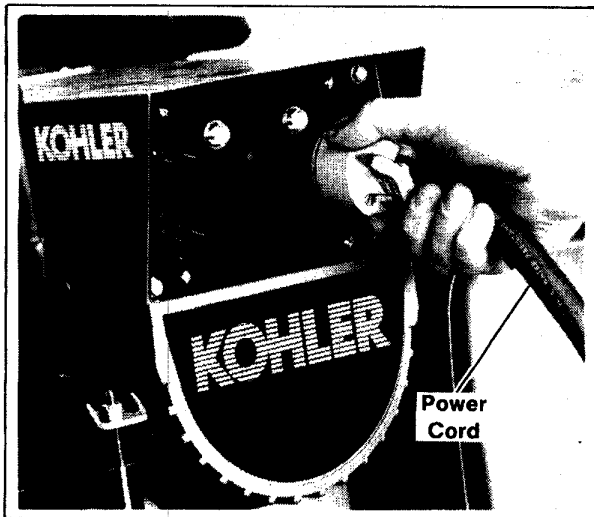

Figure 1-5. Plug into Generator
3. Plug pronged end of power cord into large round receptacle on generator end panel and turn clockwise to lock. See Figure 1-5.